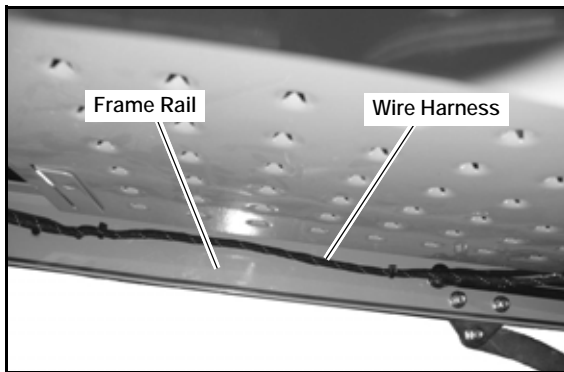
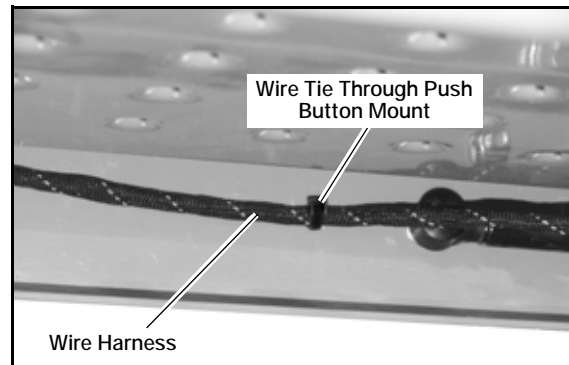
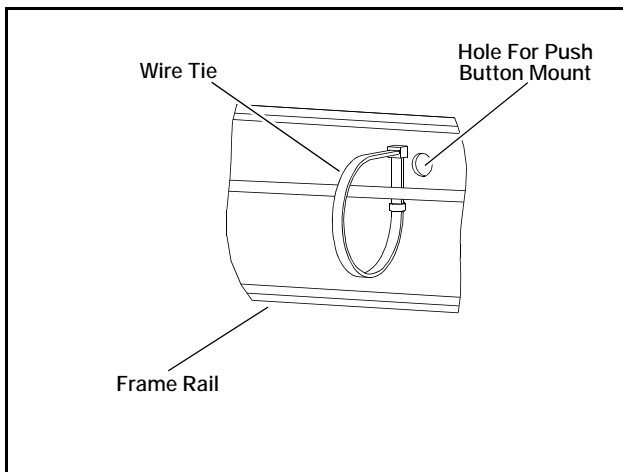

FIG. 9
FIG. 10
FIG. 11
12. Route the wire harness along the inside of the frame rail to the front of the mower. (FIG. 9 & FIG. 10)
- Secure the wire harness to the push button mounts, using wire ties. (FIG. 10 & FIG. 11) Leave the wire ties loose.